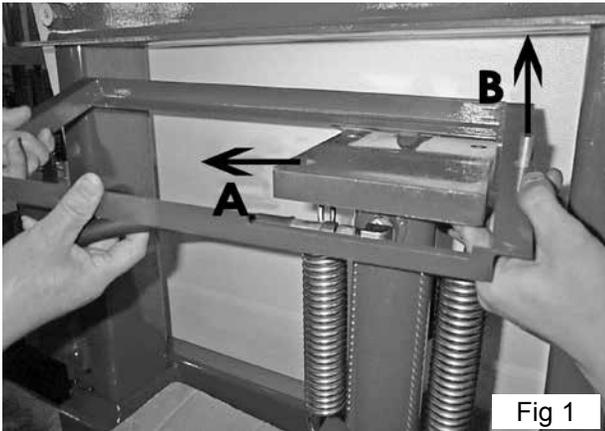

Fig 1
1. Attach legs (2) to the bottom of the Posts (6) while also attaching the Leg Center (1) between the two frame posts. Secure the three steel items with bolts (3) and Hex Nuts (5), and Flat Washers (4).
2. Place the Table (8) between the frame posts by sliding it down from the top and secure it with the Support Pins (7). Align the base straight.
3. Attach the Top Beam (9) to the top of the frame posts using Hex Bolts (10), Spring Washers (12) and Hex Nuts (11). Ensure the Hydraulic Jack Centering Ring is facing downwards.
4. Attach the Ram Frame (21) to the underside of the Top Beam (9) sliding the top of the Ram Assembly (25) into the bracket before tightening down the bolts, nut and lock washers. (See Figure 1)